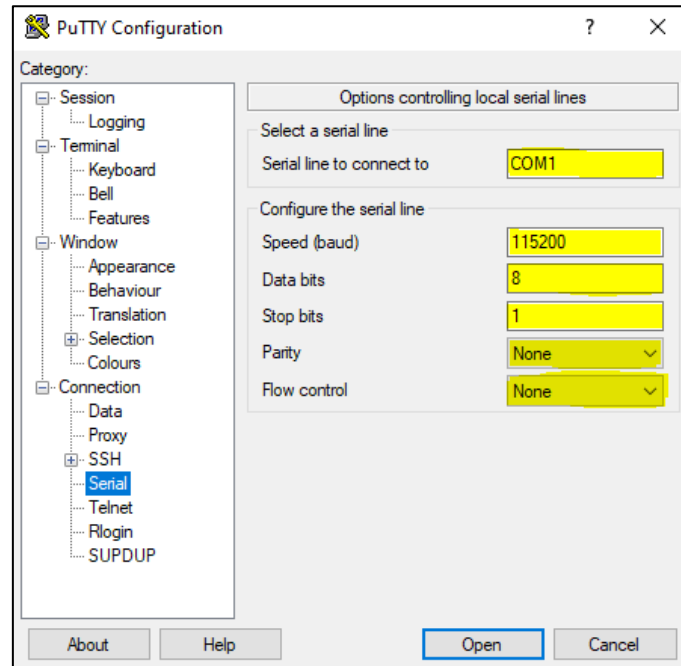

Figure 8: Serial parameters
7. Set everything as shown in "Fig. 8 Serial parameters" marked in yellow.